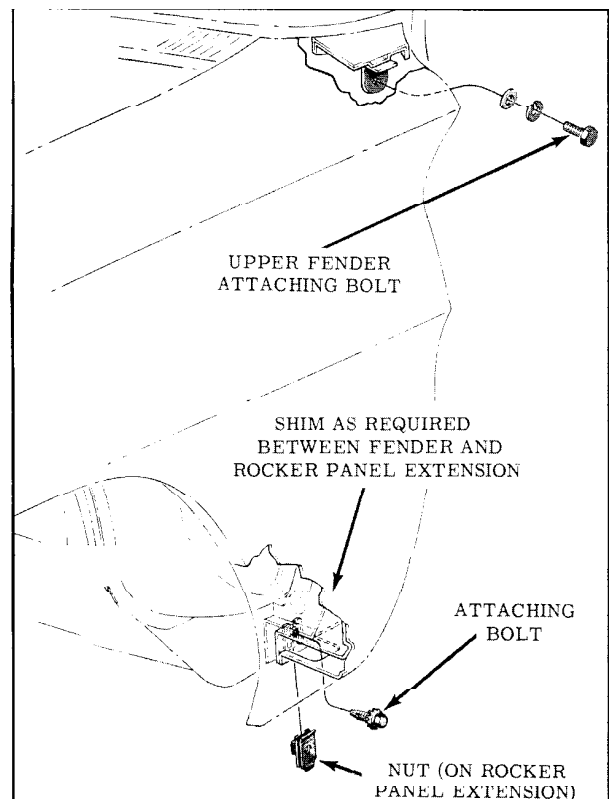
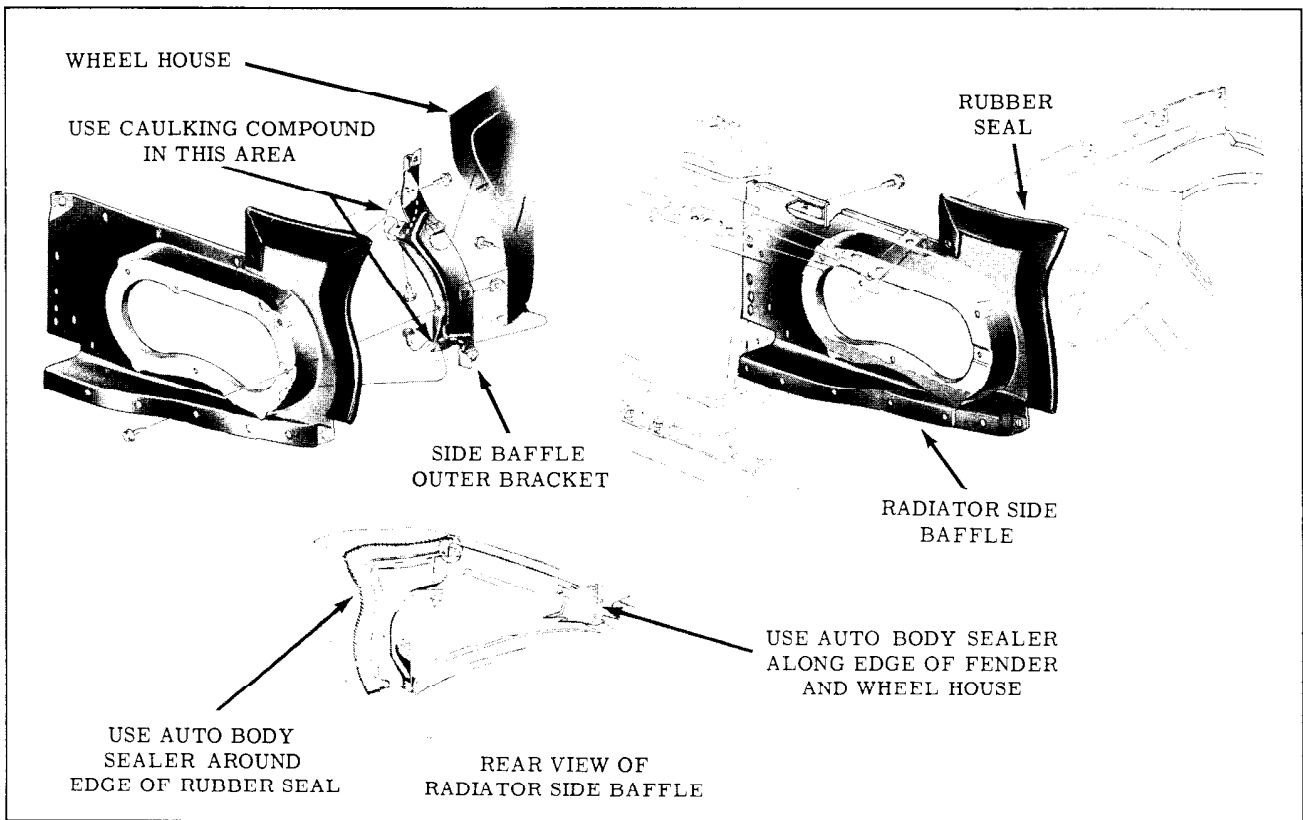

Fig. 11-9 Fender Rear Attachment
Fig. 11-13 Radiator Side Baffle
4. Remove fender to rocker panel extension bolt, and shims if used, and upper fender to cowl bolt and washer. (Fig. 11-9)
indicated in Fig. 11-13. Tighten attaching screws and bolts enough only to hold fender in place and yet allow movement by tapping, then check alignment. It may be necessary to use shims as shown in Fig. 11-9.
RADIATOR SIDE BAFFLE & BRACKETS (Figs. 11-13 & 11-14)
attaching bolts. (Figs. 11-9 and 11-10) Use sealer at each retainer location.